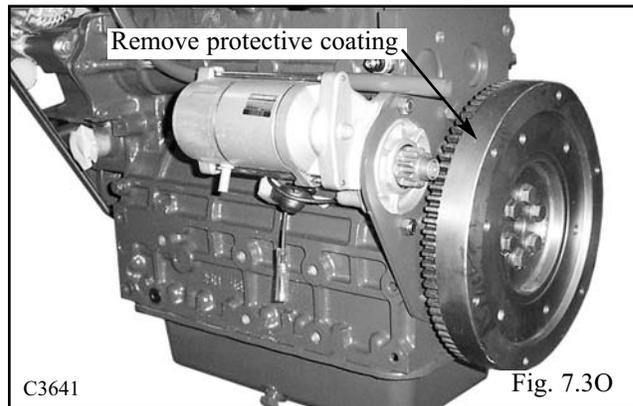

Fig. 7.3O
- 1 Remove the protective rust preventative coating from the flywheel. (Fig. 7.3O) Use a solvent to remove. The flywheel must be cleaned to the surface metal.